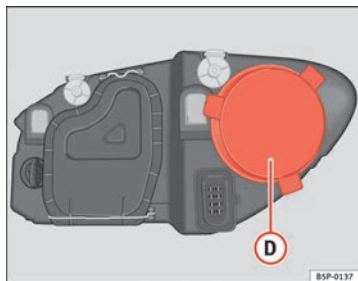

Fig. 192 Side lights
- Remove the cover ⇒ fig. 192 **D** by pulling on this.